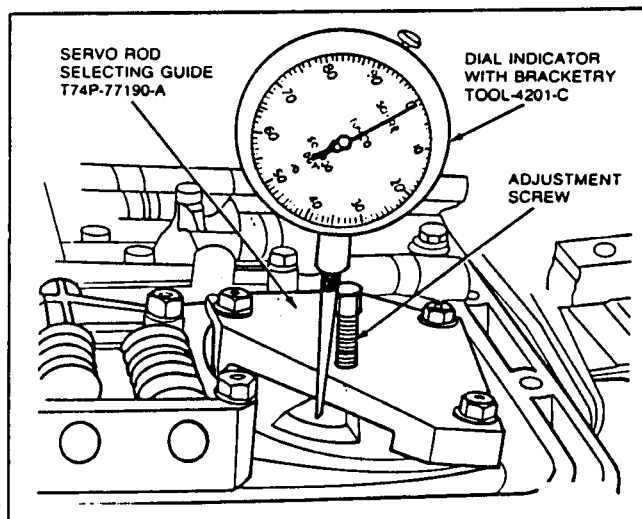

FIG. 55 Piston Travel Test Tool Installation
30. Install Servo Rod Selecting Guide T74P-77190-A or equivalent with a new servo cover gasket and tighten the three attaching bolts (Fig. 55). As the servo cover to case bolts are not long enough to attach adjusting tool to case, use three M6x30 main control to case attaching bolts.
the three servo piston pads that is accessible through the cutout on the tool (Fig. 55). Set dial indicator at zero.